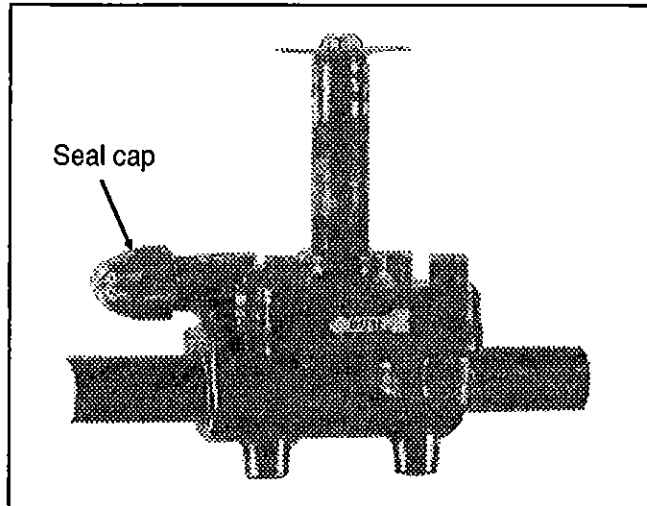

FIG. 16 - Refrigerant solenoid valve (without coil)
Three (3) identical normally-closed solenoid valves regulate the flow of refrigerant (see fig. 16). The driver's A/C unit valve is located on the ceiling of the compartment at rear of front bumper. The two (2) other ones are located near the main HVAC units (HVAC), and are accessible through the baggage compartments.